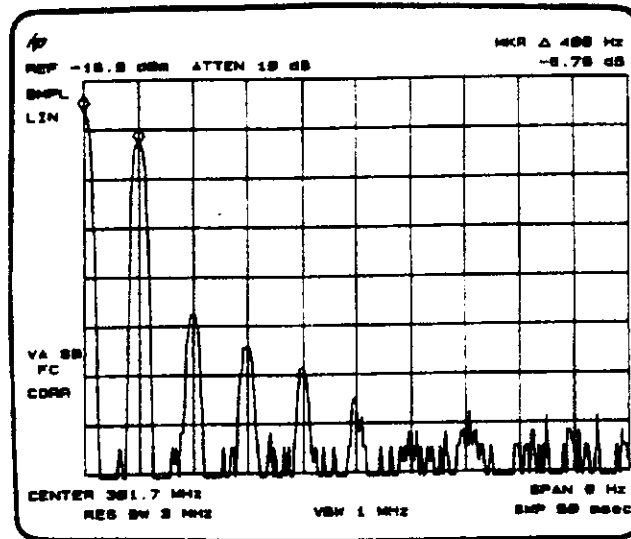

Figure 2-19
8. A marker is automatically placed on the carrier at the 0-Hz reference (at the left edge of the graticule). Press **[MKR]** and **[MARKER DELTA]** to determine the frequency and amplitude difference between the signal and the modulation. See Figure 2-19.